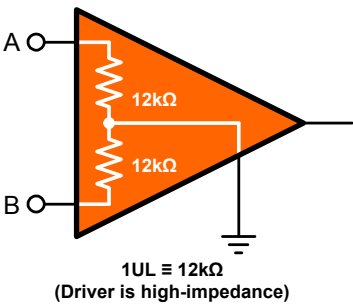
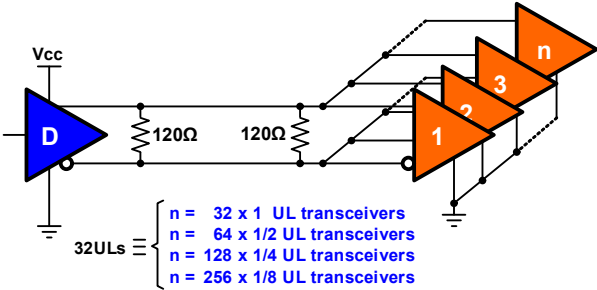

Figure 5. RS-422 Transceiver Input Resistance
Figure 6. 32ULs Equivalents
- Figure 5. RS-422 Transceiver Input Resistance 3
- Figure 6. 32ULs Equivalents 3
To prevent a driver from being overloaded by exceeding the 32 ULs limit, transceivers are given a unit load rating (Figure 5). Legacy transceivers usually have a rating of 1UL, which is mainly due to their older process technologies. Modern transceivers, commonly based on CMOS and Bi-CMOS processes have higher input impedances and thus lower or fractional UL-ratings, such as 1/2UL, 1/4UL, and 1/8UL. These correspond to input resistances of 24kΩ, 48kΩ, and 96kΩ, respectively. The specified 32ULs therefore correspond to a different number of transceivers, depending on their UL-ratings (Figure 6).